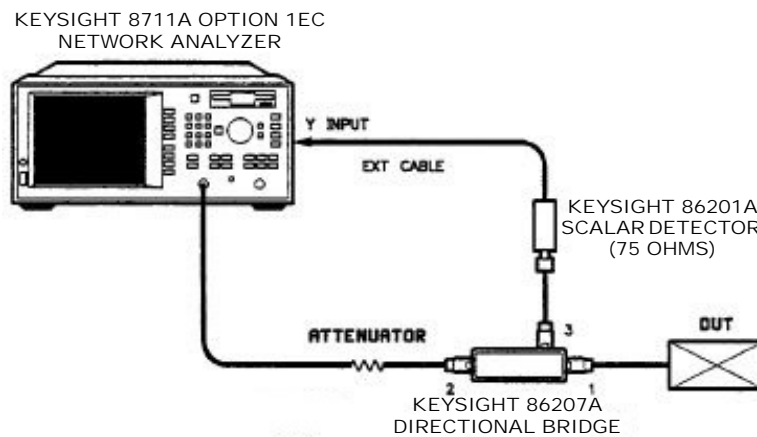

Figure 2-3 Remote directivity measurement setup
- 1 Connect the equipment as shown in Figure 2-3.